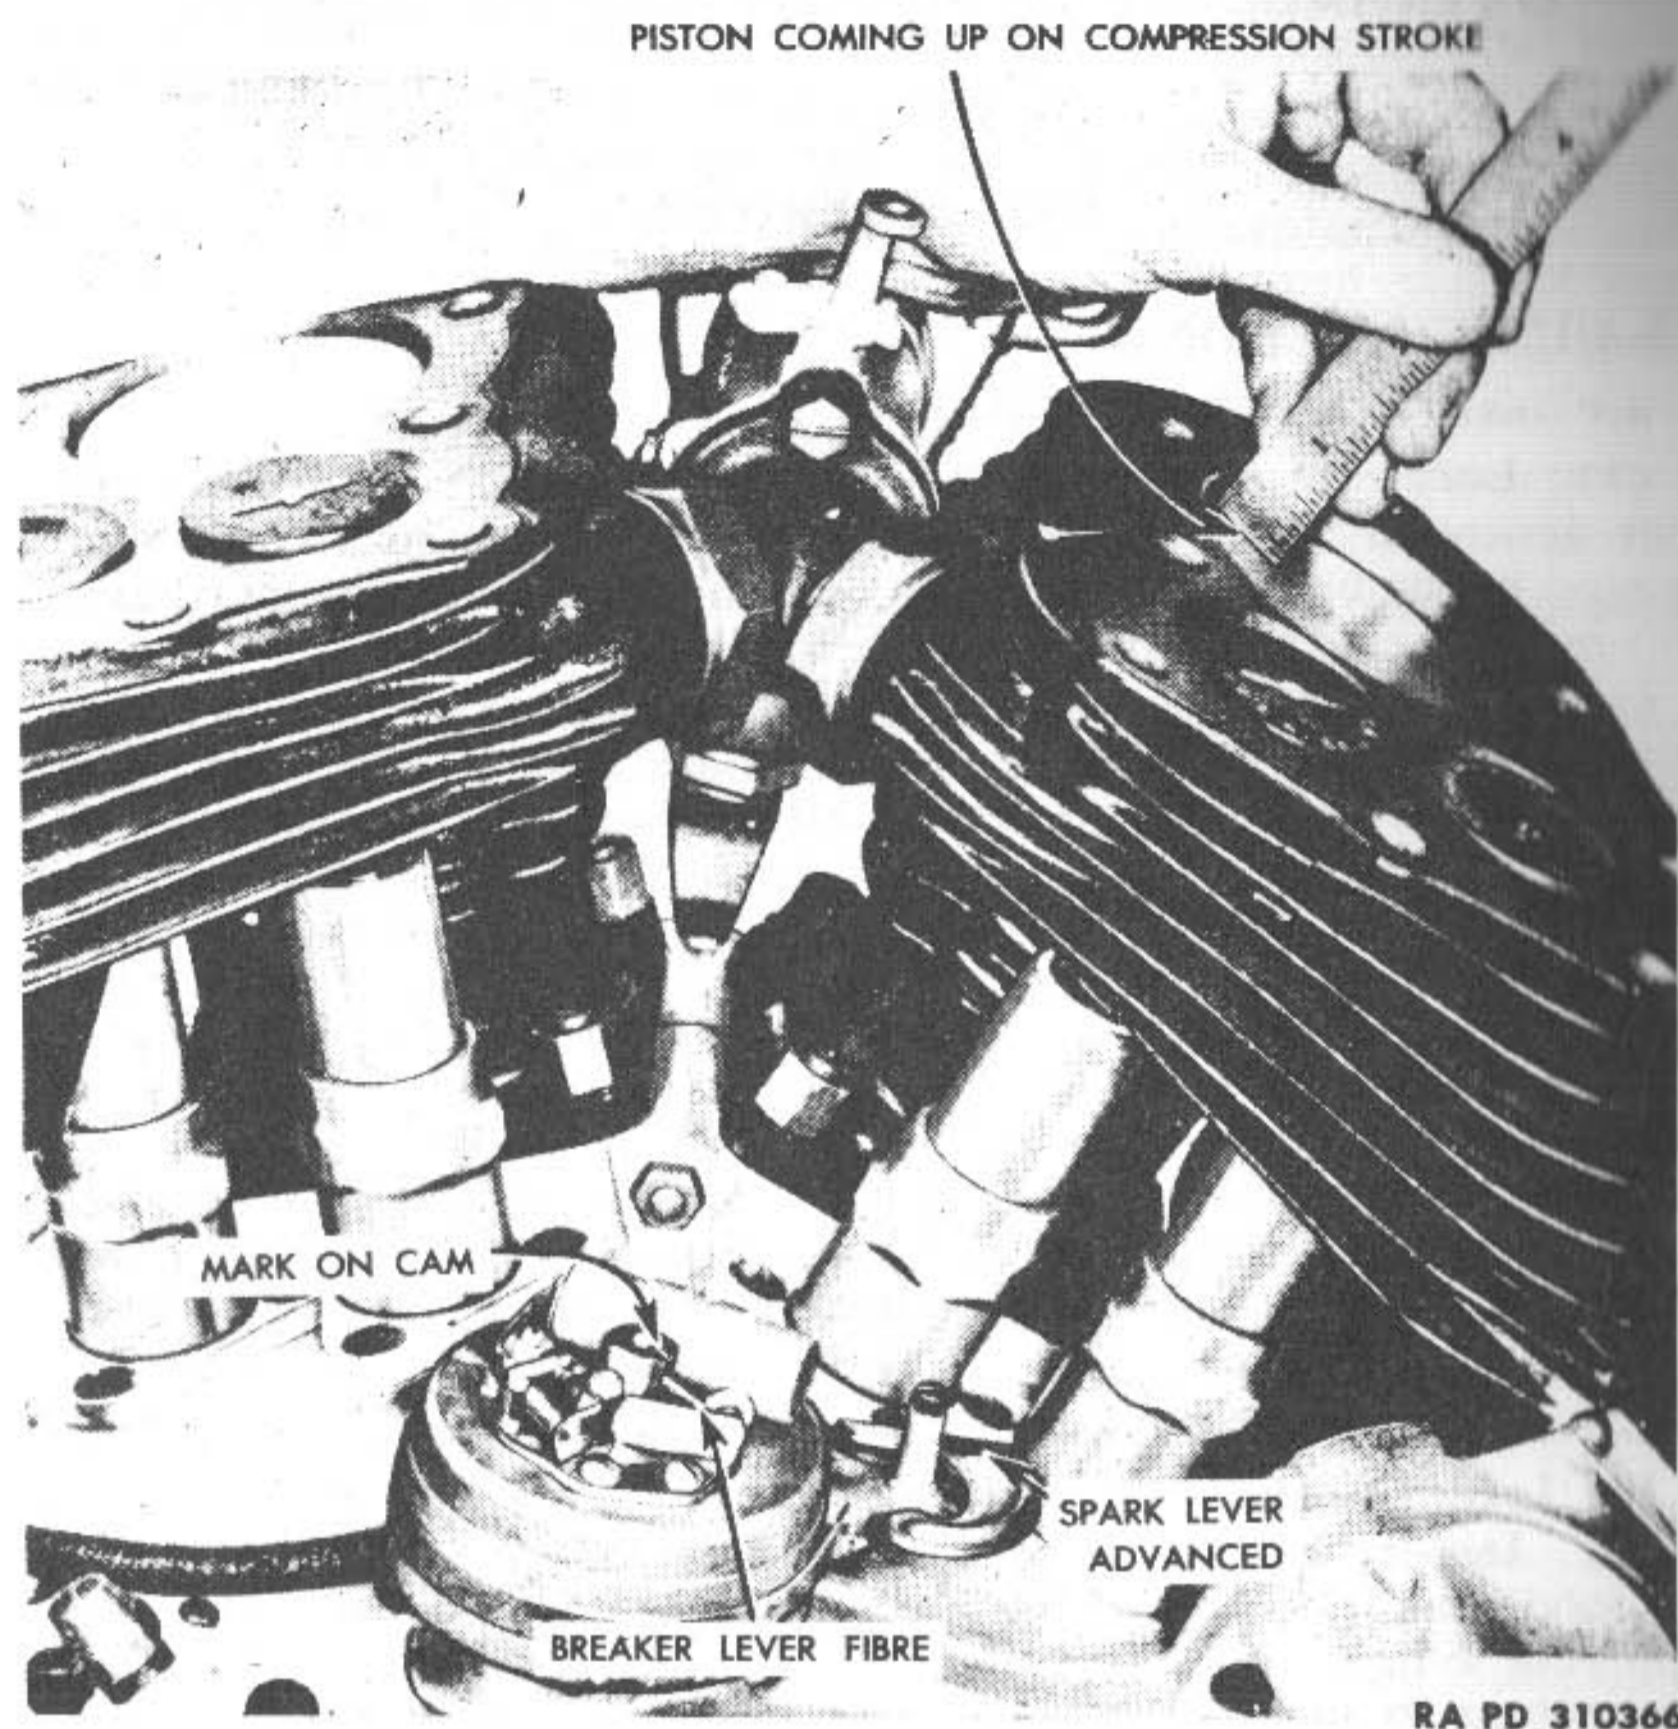

Figure 22—Timing Ignition by Piston Location
(3) Turn engine in direction in which it runs until front cylinder piston is $\frac{9}{32}$ inch before top dead center on the compression stroke (fig. 22). At this point, the small end of the ignition timer cam should be just opening the points. **NOTE:** *Point gap must be adjusted to 0.022 inch before correcting ignition timing.*
(4) To correct ignition timing, loosen timer lever band screw and shift timer head until points just open with front piston set at $\frac{9}{32}$ inch before top dead center; then tighten timer head band screw. Recheck timing after timer head band screw has been tightened to make sure timer head has not shifted.